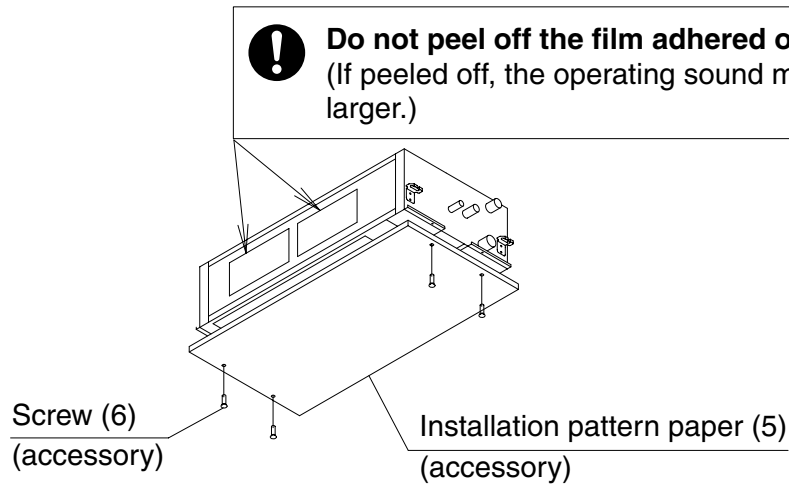

Fig. 4
- The center of the ceiling opening is shown in the installation pattern paper (5).
- Put the installation pattern paper (5) to the indoor unit bottom with four screws (6). **(Refer to Fig. 4)**